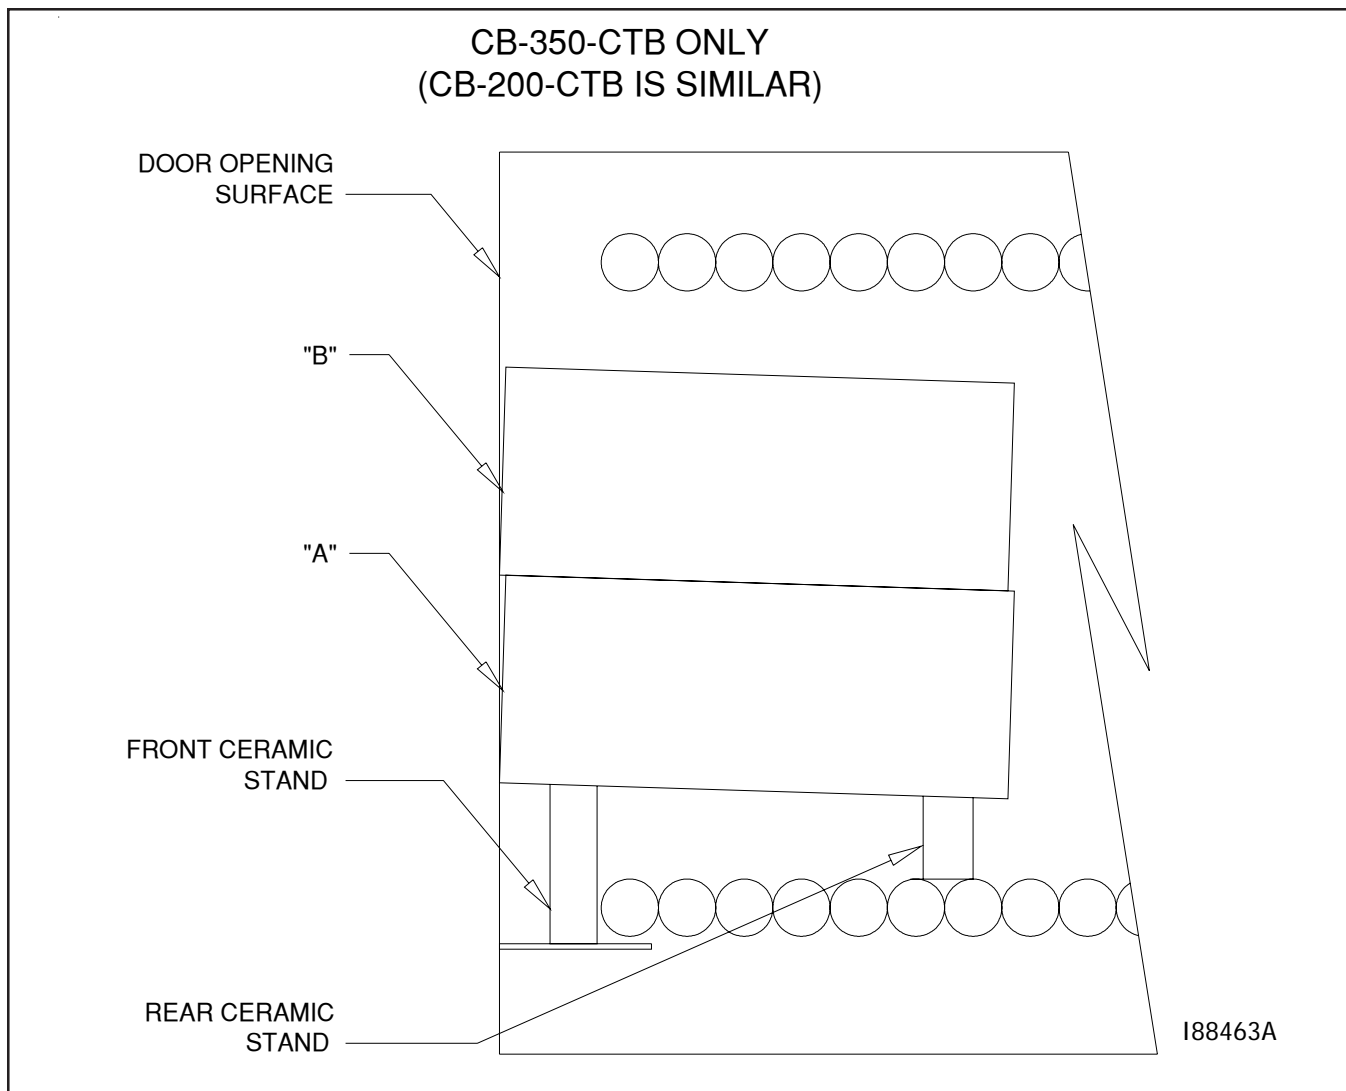

Figure 3F -Positioning of the Ceramic Stand and Ceramic Sleeve
1. Refer to Figures 3F and 3G.
3. Install the stand for the ceramic sleeve as detailed in Figure 3F. Position the rear stand (the shorter one) on the coils approximately 35 cm (14") in from the door opening. Position the front stand (the taller one) against the first turn of the coil as shown in Figure 3F.
NOTE: As shown in Figure 3F, the lower half of the ceramic sleeve (when installed properly) will have a slight slope away from the door (see points "A" and "B" on the figure). At the bottom, the sleeve should just barely touch the door opening. At the top, the sleeve should be approximately 3 mm (1/8") from the opening. The opposite end of the lower sleeve half should extend beyond the rear stand approximately 2 1/2 to 5 cm (1 to 2 inches).
NOTE: *The two halves of the sleeve will be offset in the front because of the similar bottom-to-top slopes of each piece (with a 3mm (1/8") gap at the top as shown in Figure 3F).*